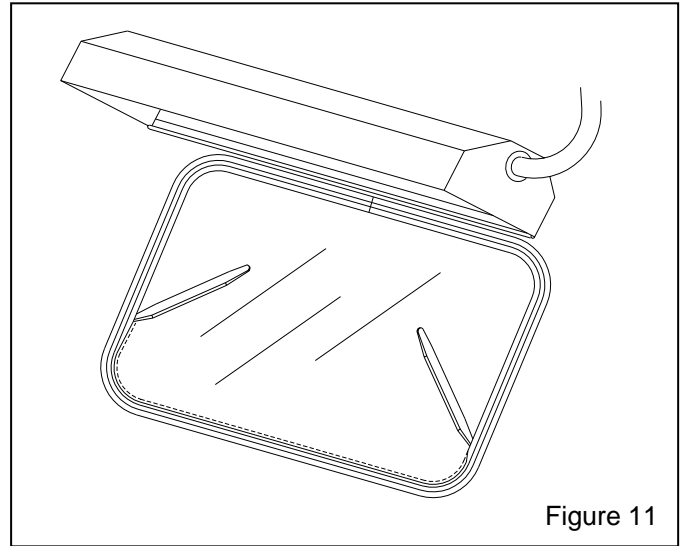

Figure 11
6.3.7. Use a nylon window stick, Stock No. 22933, as shown in Figure 11, and work the window channel lip over the glass. When this is done, the window should be entirely within the molding's window channel.